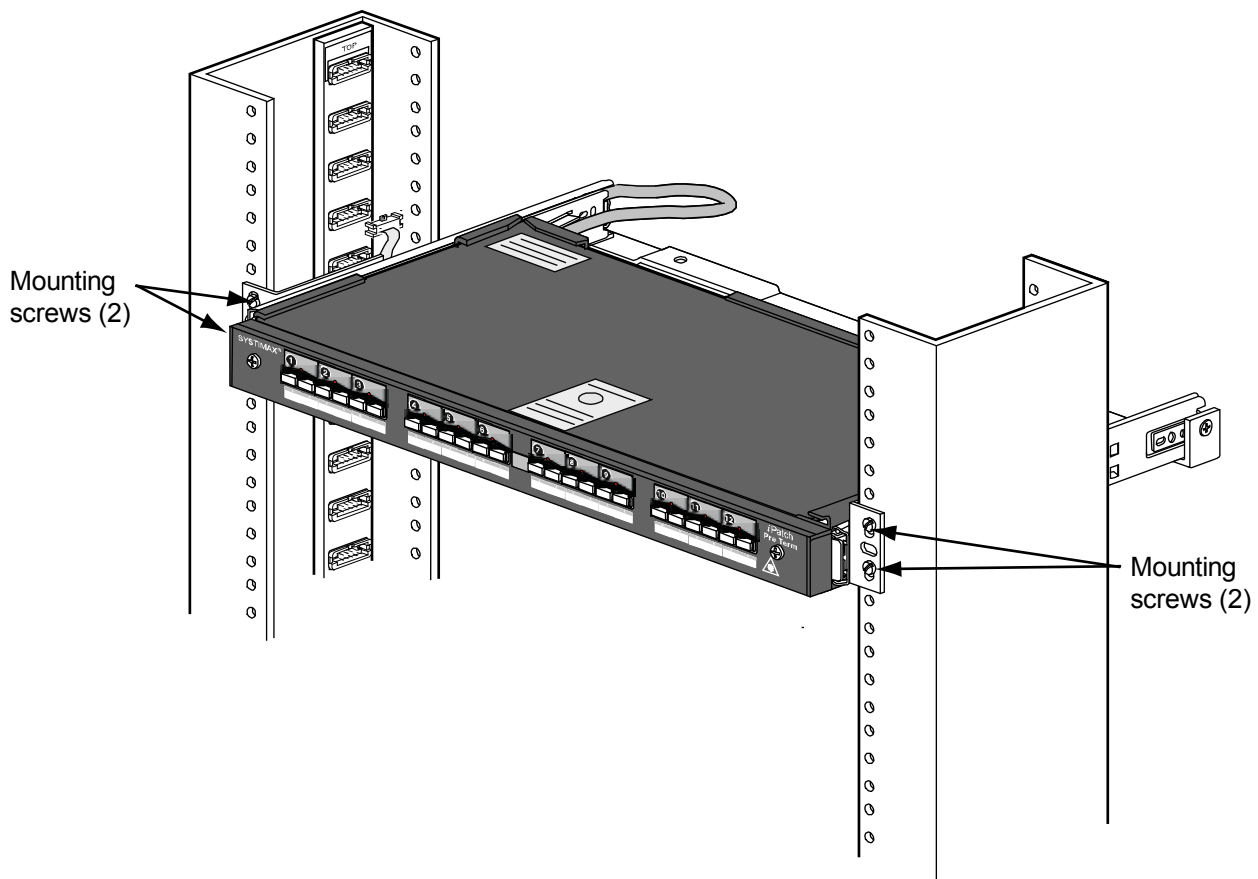

Figure 2. Install the Shelf in the Rack
1. Install the shelf in the rack using the four #12-24 x 3/8 inch mounting screws provided as shown in Figure 2.